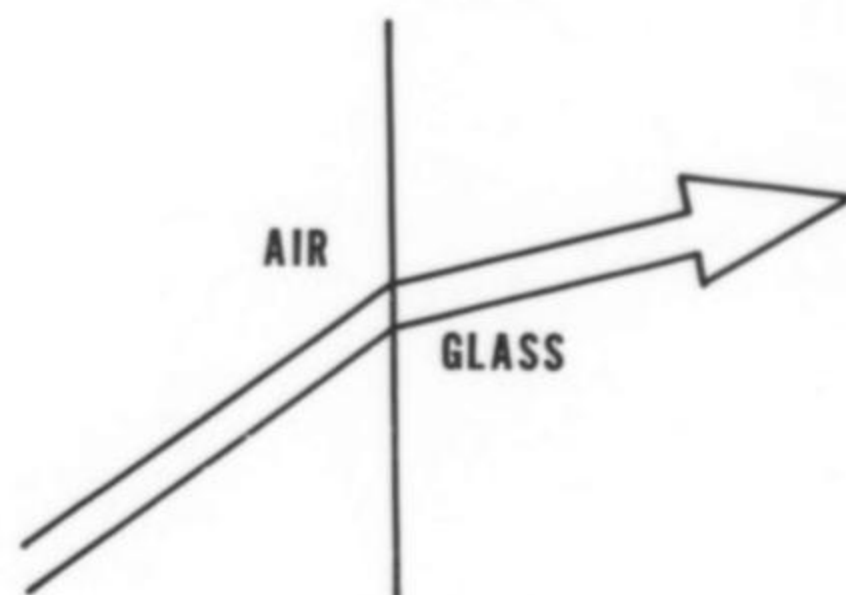
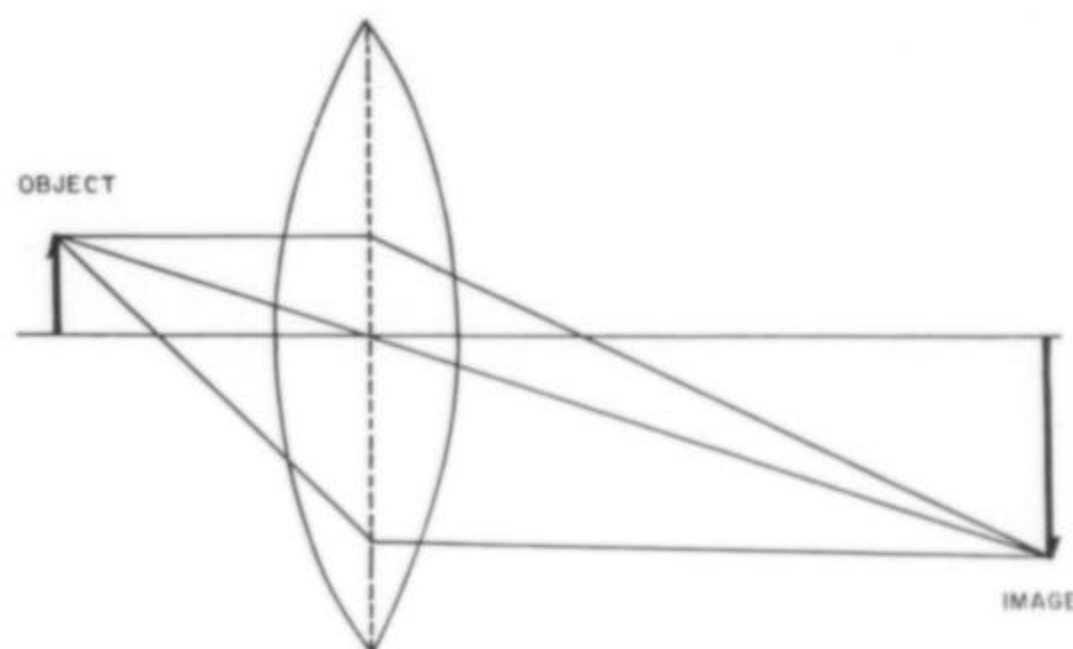

Figure 1. Simple refraction.
Figure 2. Simple lens.
**ONE:** Light travels at different speeds in different media. Because of this, light traveling in one medium (say, air), hitting the surface of another medium (say, glass), at any angle other than the perpendicular will be bent away from its original direction of travel as it enters the second medium (see Fig. 1). (Some of it will be reflected away, and will not enter the second medium at all—but we do not have to worry about that.) We can make convenient use of this property to shape a piece of glass so that it will make incoming light form an image. This is a simple lens (Fig. 2).